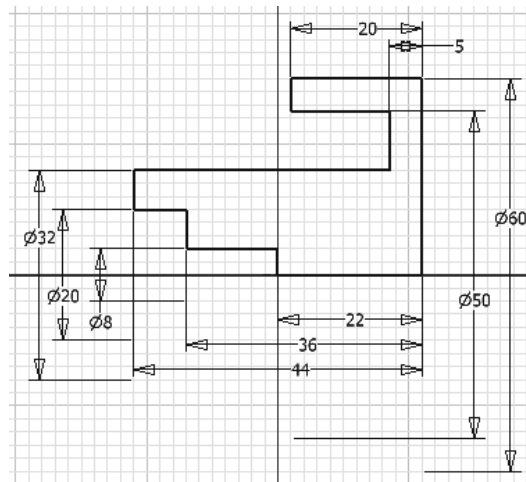

Figure 3-51 Fully constrained sketch for Tutorial 2
- Apply **Coincident Constraint** between the origin and lower left vertex of the sketch to make it a fully constrained sketch, refer to Figure 3-51.
16. Choose the **Zoom All** tool from the **Navigation Bar > Zoom** flyout to fit the sketch into the drawing window. The fully constrained sketch after adding all dimensions is shown in Figure 3-51.